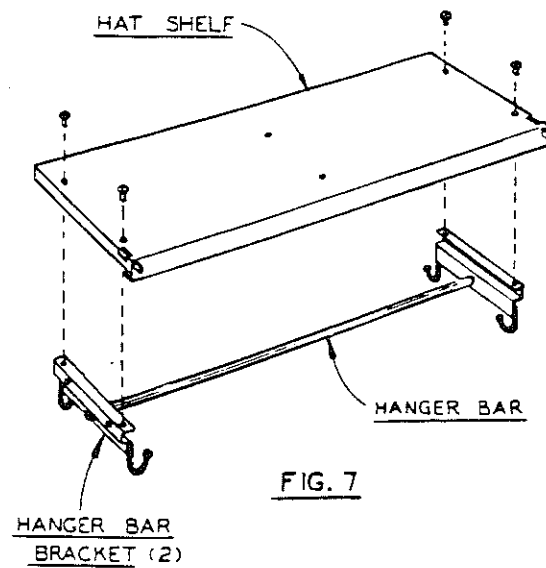

FIG. 7
2. BOLT HANGER BAR BRACKETS UNDER HAT SHELF AS SHOWN IN FIG. 7. USE #10-24 x 3/8" BOLTS & HEX NUTS.